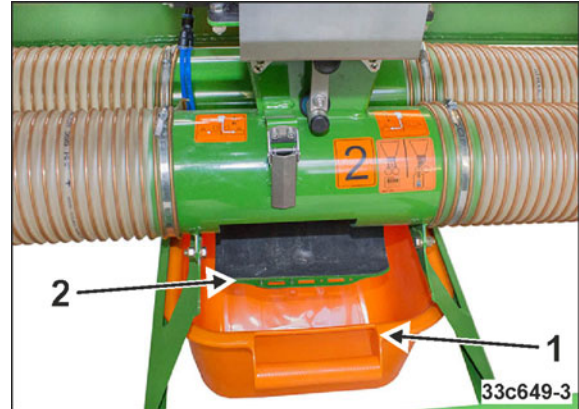

Fig. 156
4. Put a calibration trough (Fig. 156/1) in the bracket under each metering unit.
5. Release the tensioning hooks and open the folding of the left conveyor section (Fig. 156/2).